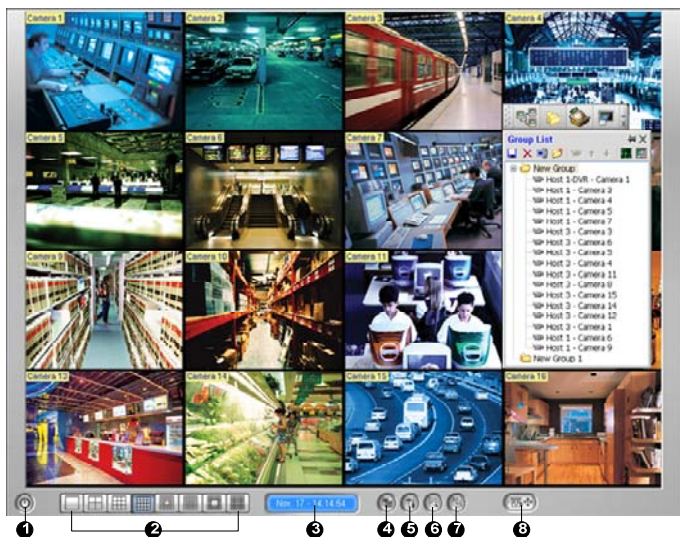

Figure 4-24
On the Matrix window, click the **Configure** button (No. 5, Figure 4-24).
- To open the POS Live View window, click the **ViewLog** button (No.6, Figure 4-24) and select **POS Live View**.
- To instantly play back the events of all channels, click the **ViewLog** button (No.6, Figure 4-24), select **Instant Play**, and select the time length.